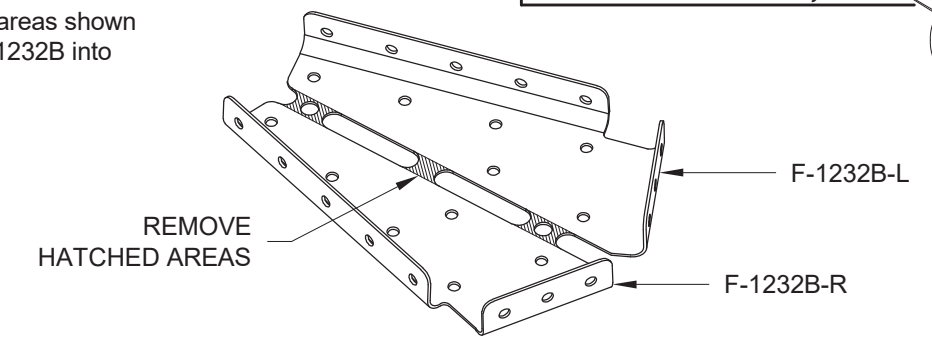

FIGURE 3: SEPARATING THE F-1232B
Step 7: Remove the hatched areas shown in Figure 3 to separate the F-1232B into left and right parts.